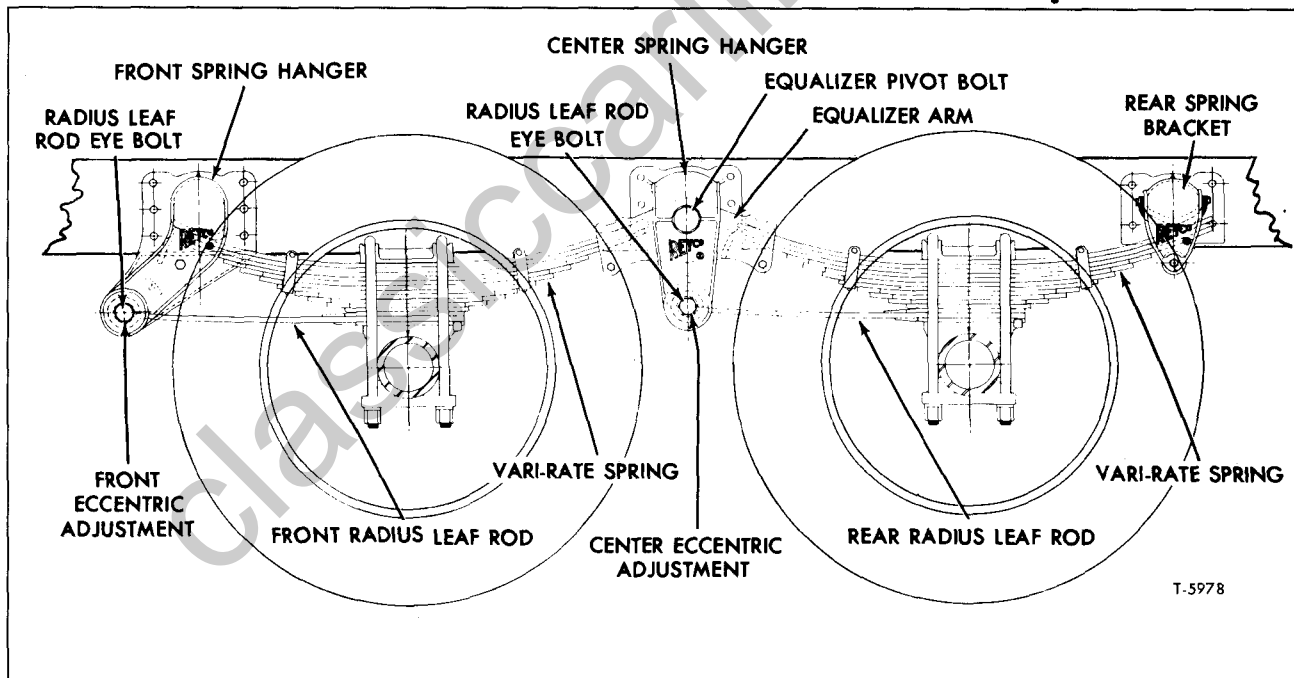

Figure 21—Reyco 101 Suspension
NOTE: Disassembly procedure is the same for front or rear spring since springs are identical as shown in figure 21.
3. Using a tape measure, measure from center point of center spring hanger bracket as shown in figure 21, to any open part of frame in front of wheels, where straight stock can be placed across frame and which is accessible for use of C-clamps.